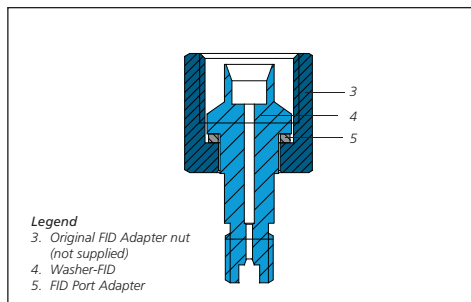

Figure 4. Image of the FID detector showing the SilTite™ FingerTite FID adapter assembly
4. Locate the Adapter FID (5), washer (4), the original nut (3) and assemble as displayed in Figure 4. Insert the Adapter FID into the base of the detector and tighten the nut clockwise until the fitting is firm.